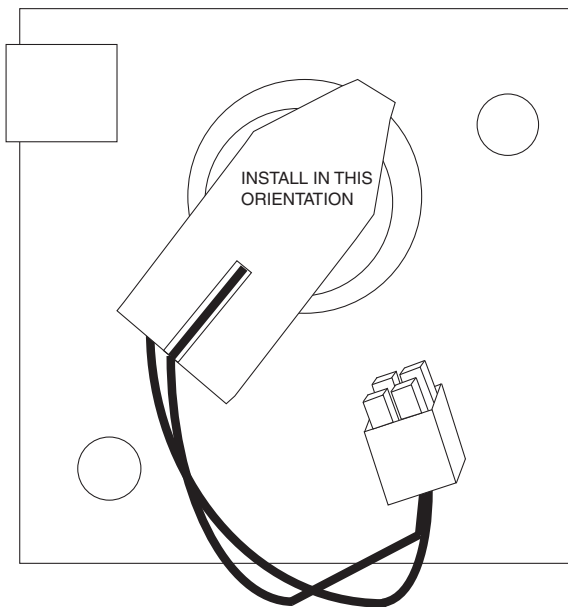

Fig. 37 — Compressor Motor Sensor Harness Installation (under motor protection module)
1. A new S1-S2 thermistor wiring harness is shipped with the CoreSense kit and must be used. The wiring harness connector block should be fully inserted on the three pins in the orientation shown in Fig. 37 for proper operation.